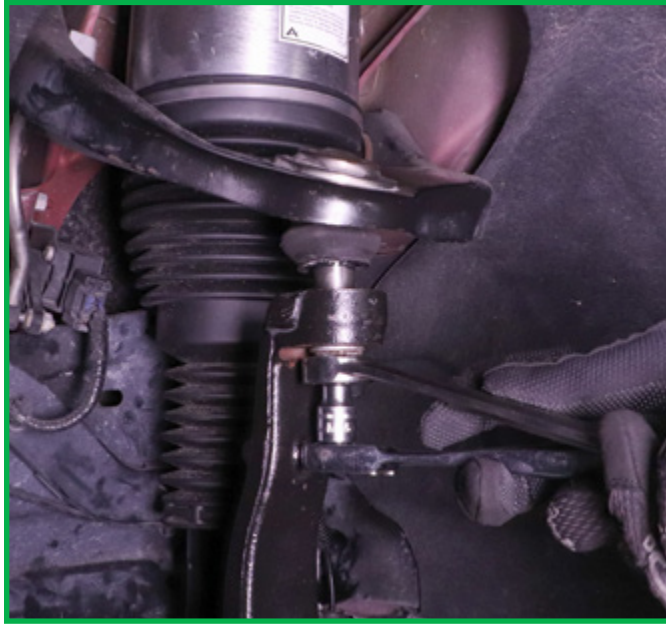

FIGURE 29
4. Reconnect the upper control arm to the spindle. Tighten to manufacturer's specifications. (Figure 29)